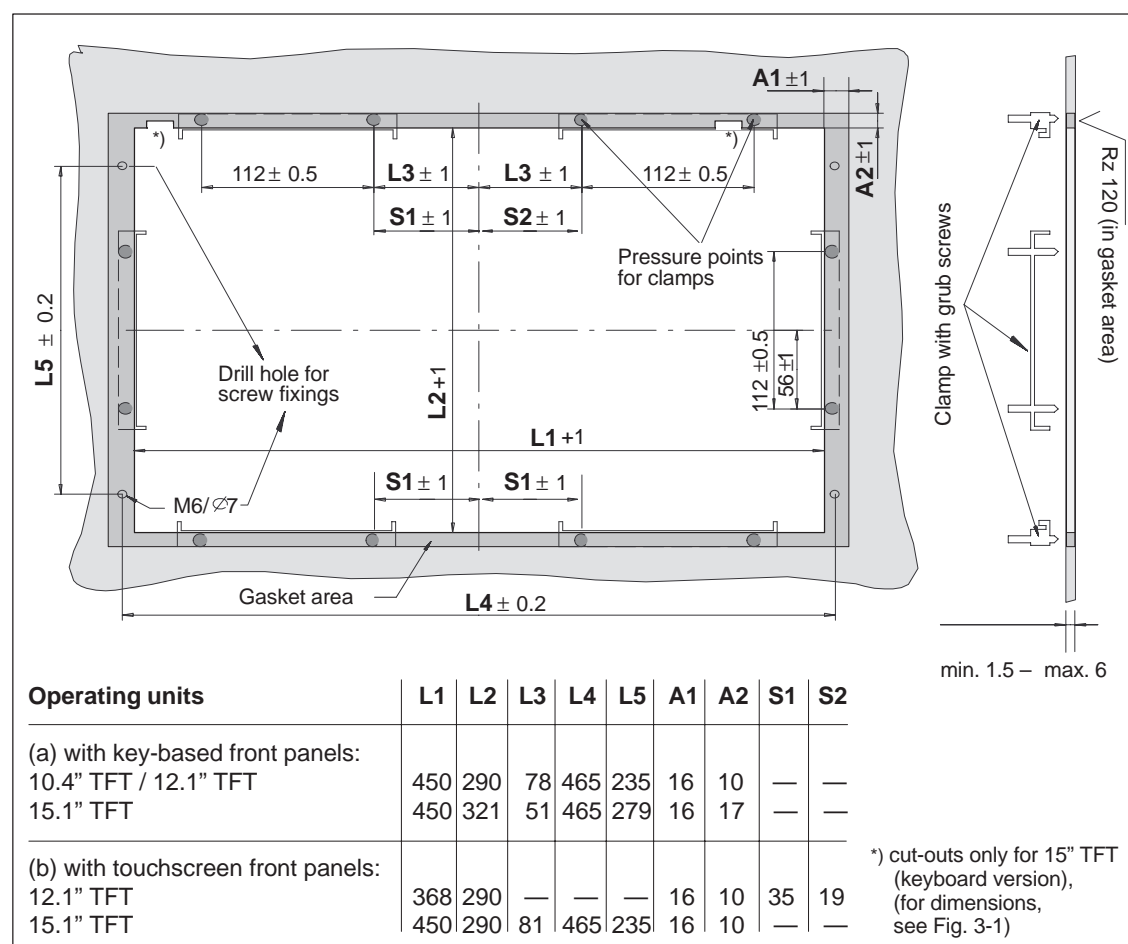

Fig. 3-3 Dimensions for installation of the operating unit of Panel PC 670
2. From the rear, fix the operating unit in position in the mounting cut-out using the six clamps (see Figure 3-3) by tightening the grub screws (torque 0.4 - 0.5 Nm).
1. Drill suitable holes around the prepared mounting cut-out (see Section 3.1) as specified for L4 and L5 in Figure 3-3.
If necessary, you can now remove the operating unit by loosening the six clamps which secure the operating unit to the mounting panel (see Figure 3-3).
If necessary, you can now remove the operating unit by loosening either the screws or, depending on the version, the six clamps which secure the operating unit to the mounting panel (see Figure 3-3).